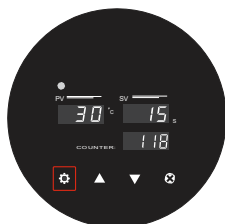

Fig. 5
5. Press Set  button to go to the temperature scale selection mode (Fig. 5).